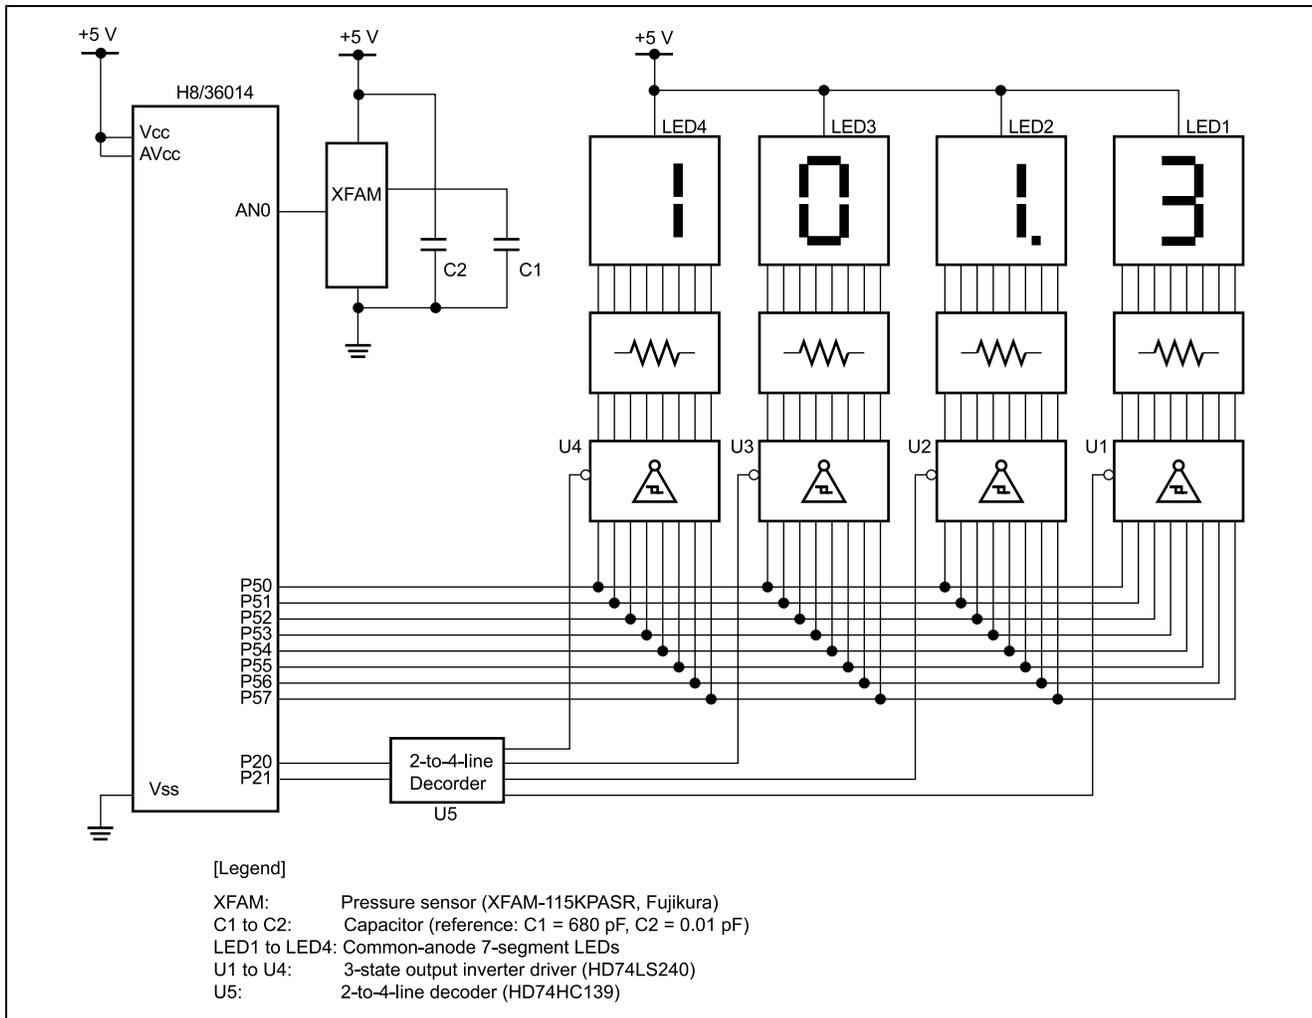

Figure 1.1 Hardware Configuration
1. Figure 1.1 shows the hardware configuration of an example of pressure sensor connection. As shown in the figure, the sensor is connected to analog input pin 0 (pin AN0).